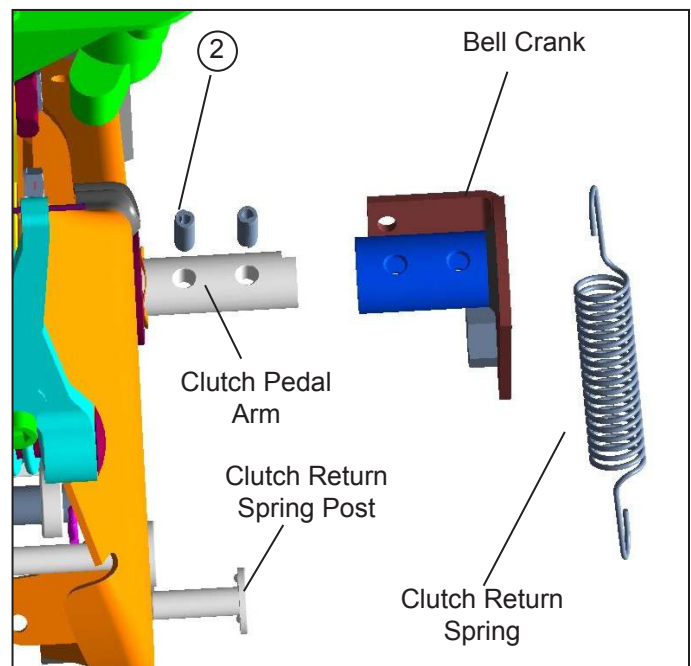

Figure 3 – Disassembly - Bell Crank Removal
5. With a hammer and punch, drive the roll pins (2) out of the bell crank.
6. Slide the bell crank off of the clutch pedal arm. *Refer to Figure 3.*